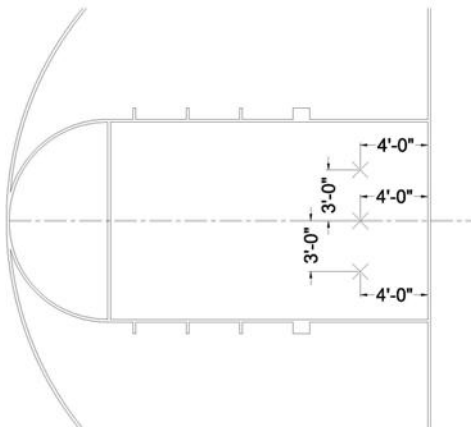

Figure 5
12. Using masking tape and pencil, Mark the location of the center of the court 4'-0" from the inside of the court baseline (refer to figure 5). From this center mark, establish a mark 3'-0" to the left and another mark 3'-0" to the right. These marks will be used to align the face of bank to the court.